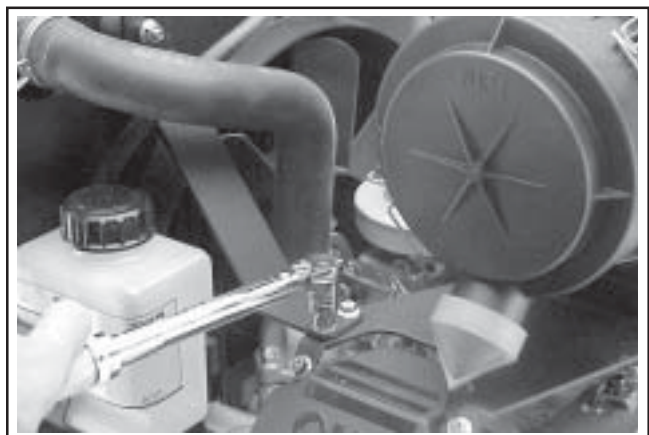

Figure 11-117. Torquing Upper Bracket Screws.
7. Hold the radiator assembly in position; then torque the screws securing the two upper radiator supports to  $9.9 \text{ N}\cdot\text{m}$  (88 in. lb.). See Figure 11-117.